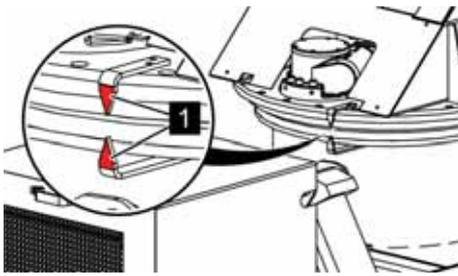

Fig. 70: Red arrows
5. ➤ Swivel the platform in the direction of transport position (☞ *Chapter 6.10 'Operating the machine' on page 95*) until both red arrows (Fig. 70/1) meet.